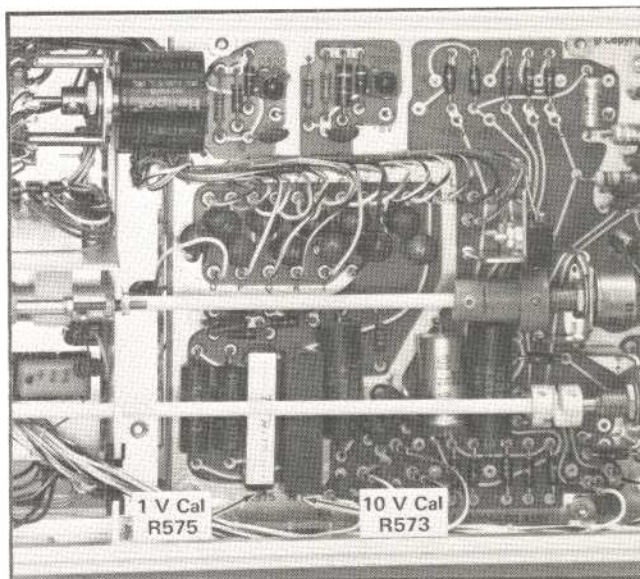

Fig. 5-27. Comparison Voltage adjustment locations on the Output board.
i. ADJUST—10 V Cal control R573 (see Fig. 5-27) to obtain a null indication on the Precision DC Voltmeter. Simultaneously set the Type 7A13 and Precision DC Voltmeter Polarity switches to +. Repeat steps 27e through 27i. If necessary,
g. ADJUST—1 V Cal control R575 (see Fig. 5-27) to obtain a null indication on the Precision DC Voltmeter. Simultaneously set the Type 7A13 and Precision DC Voltmeter Polarity switches to $-$. Repeat steps 28d through 28g. If necessary readjust R575 to obtain a compromise setting between the $+$ and $-$ Polarity null indications.